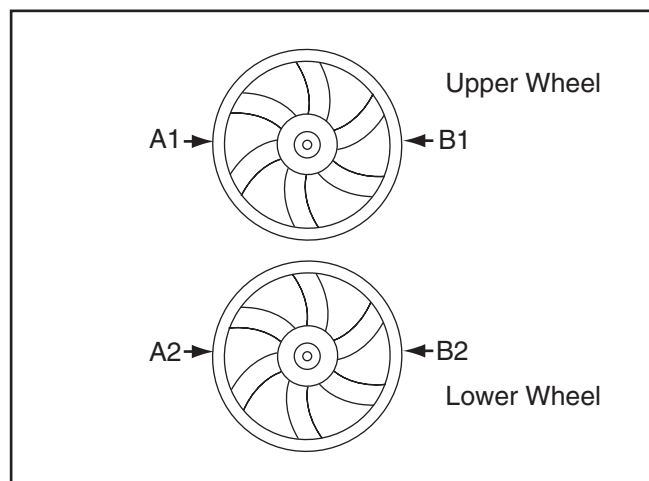

Figure 72. Example of marking upper and lower wheels for consistent measurements.
- Using a white crayon or other light color marker, mark the upper and lower wheels to indicate the measuring locations, as illustrated in **Figure 72**.
- Using a straightedge, check the wheels at the A and B locations (see **Figure 72**).